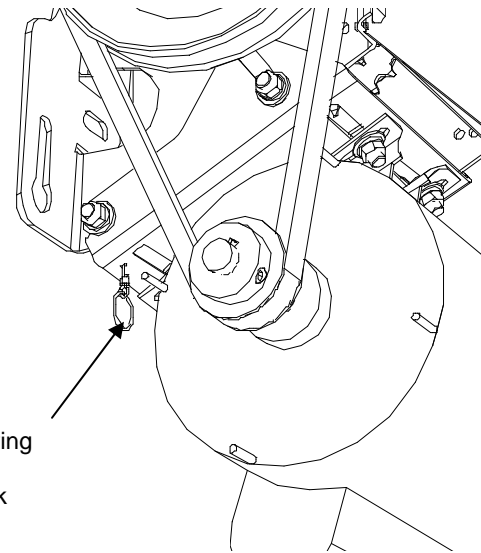

Figure 12 Installing disconnect chain on Opera-J
6. Opera-J: link the disconnect chain at the key ring or hook located at the extremity of the disconnect pull cable (Figure 12) Place the Opera-J chain keeper so that, when pulled and engaged, the disconnect chain keeps the machine "disconnected" and in the manual position.